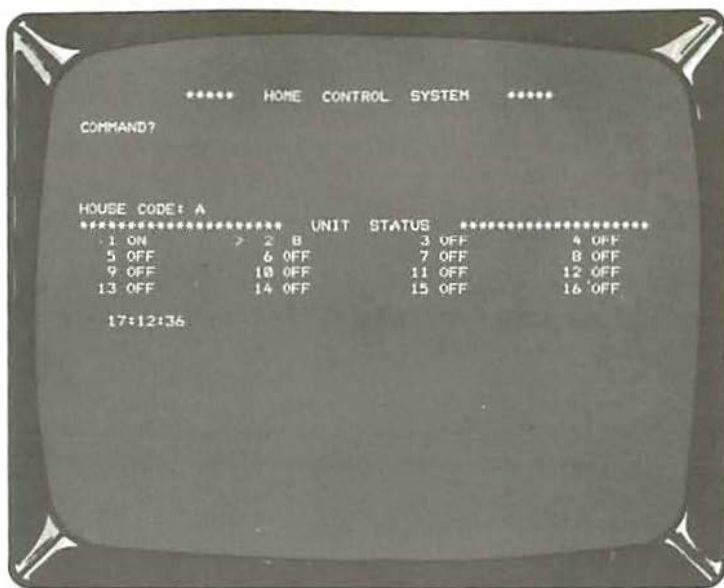

Figure 5. Typical display after the commands 2 (ENTER) BR2 (ENTER).
The level of intensity of a lamp connected to a Dimmer or Wall Module may be increased from 0 ("OFF") to 10 ("ON" full intensity). If the selected module is off at the time of the command, the unit will be turned on to full intensity (10) regardless of the BR value. If the selected module is on and the intensity was reduced by a DIM command, the level will be increased by the value of the BR command. See **Figure 5**.